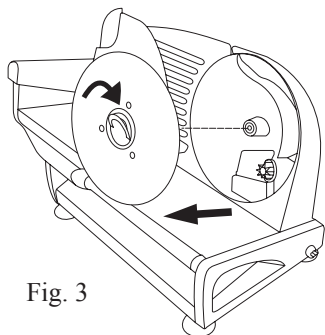

Fig. 3
6. Remove Blade by holding with one hand, flip tab out and turn to unlock Blade Locking Screw by turning it clockwise. **CAREFULLY** pull Blade off and hold by using the center part of Blade (Fig. 3).